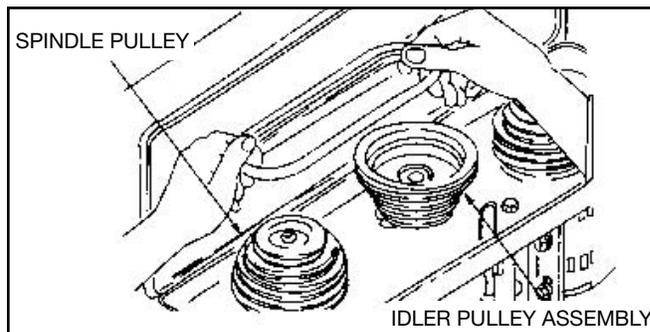

FIGURE 13
1. Locate two (2) V-belts in the loose parts bag.
2. Use speed chart inside belt guard to choose speed for drilling operation. Install belts in correct position for desired speed. The longer of the two belts is always positioned between the spindle pulley and idler pulley. See figure 13.